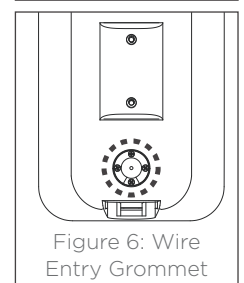

Figure 6: Wire Entry Grommet
4. Feed the speaker wires from the bracket into the wire entry grommet on the back of the speaker, through the wire tunnel and out the opening on the speaker's front panel (see figure 6).